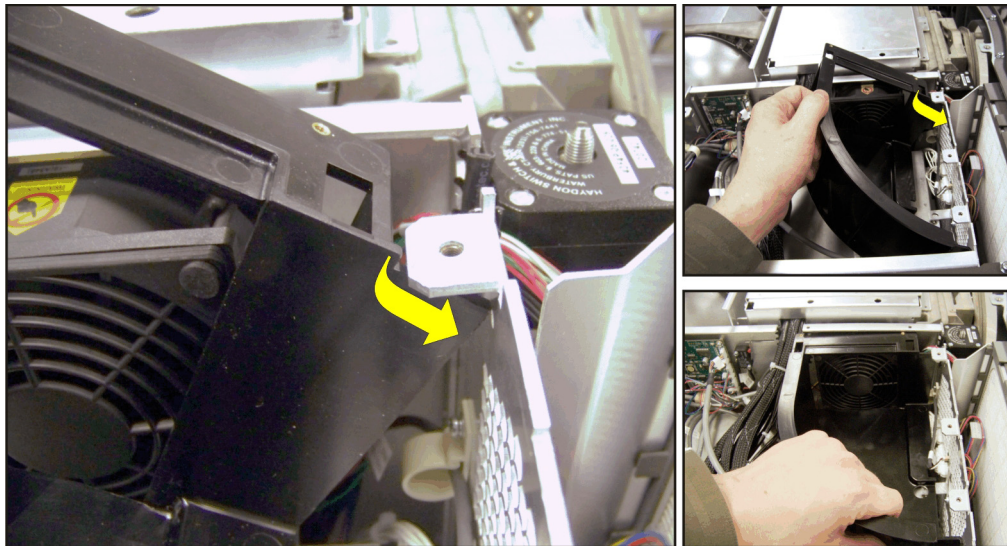

Figure 5-14 Reinstalling Intake Duct
5. Reverse the above steps to install. **NOTE:** When reinstalling, tilt the duct on an angle to clear the flange (**Figure 5-14**).